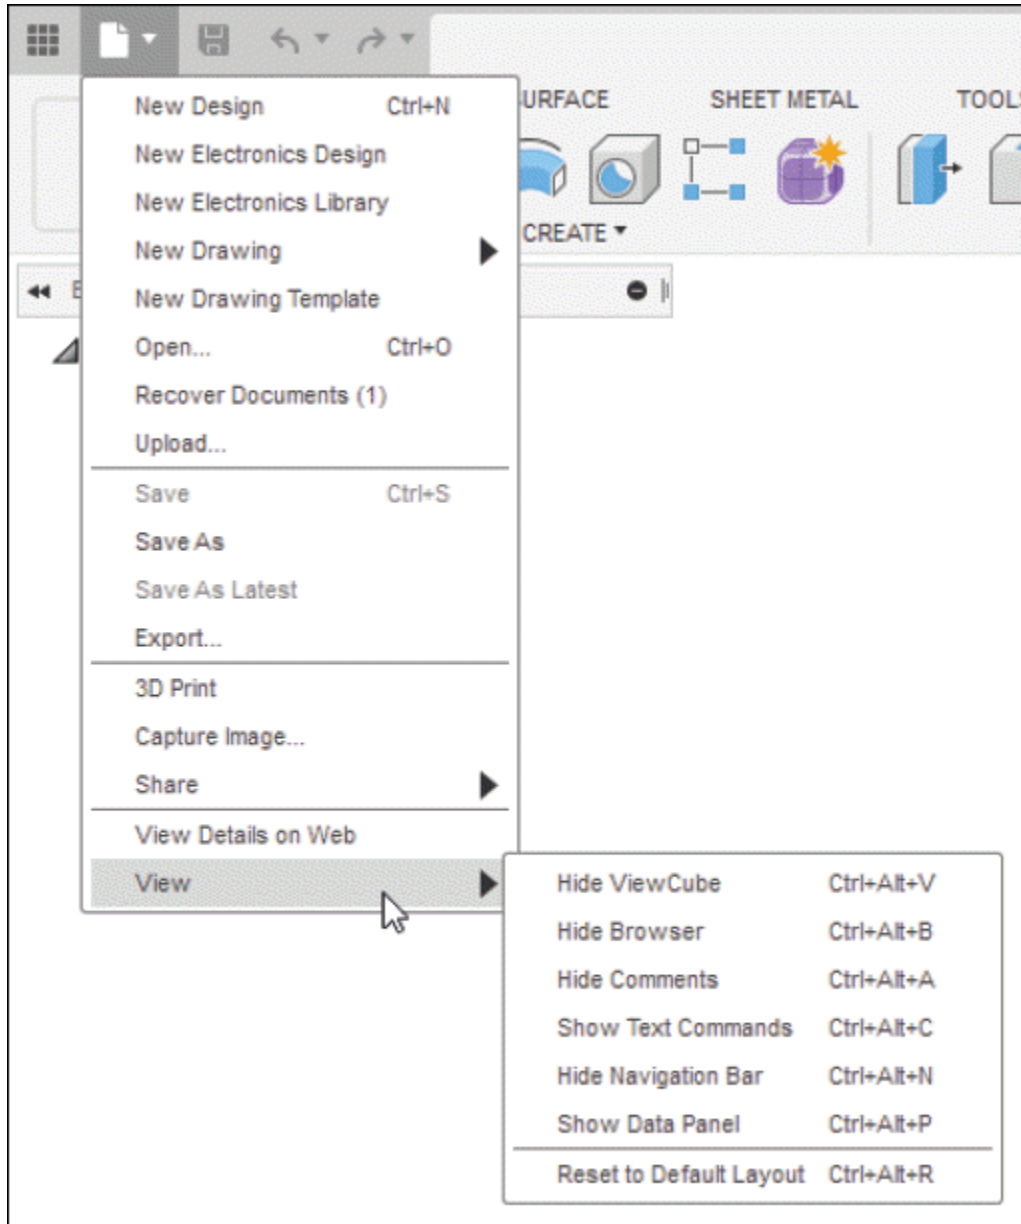

Figure-79. View cascading menu
- Click on the **View** tool from **File** menu. The **View** cascading menu will be displayed; refer to Figure-79.